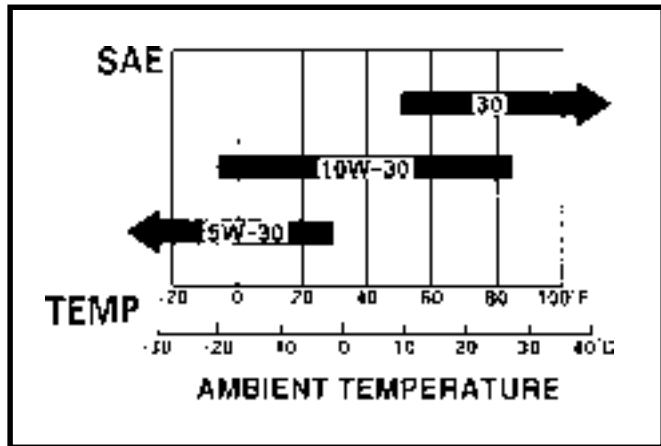

FIGURE 1 - Engine Oil Viscosity
## Engine Oil - HONDA (Figures 1 & 2)
- Use a high detergent, premium quality motor oil certified to meet or exceed U.S. automobile manufacturer's requirements for Service Classification SG, SF. SAE 10W/30 or 10W/40 is recommended for general, all temperature use. See Figure 1 for the viscosities required at different temperature extremes.